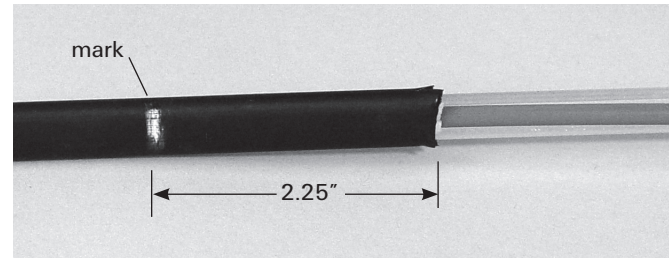

Figure 5
2. Mark the cable sheath 2.25" from the sheath ring cut. (Figure 5)